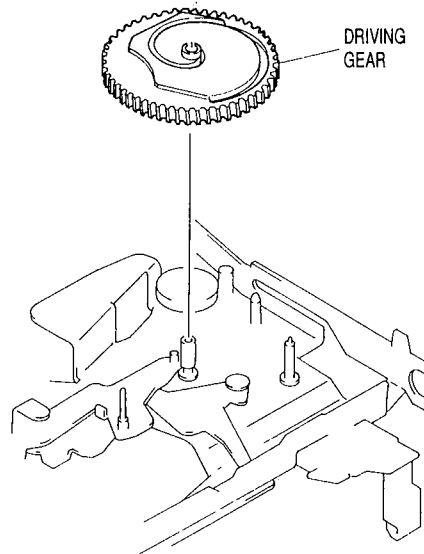

Fig. 3-35
- 1) Pull out the driving gear. (See Fig. 3-35)